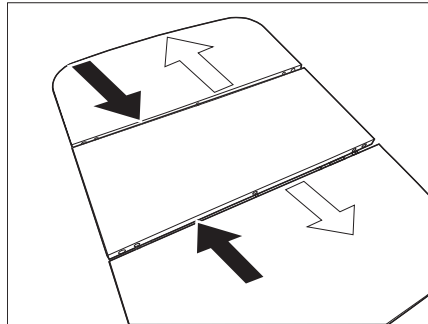

Fig. 102 Lowering the table
- Push the outer parts of the table onto the middle part (Fig. 102 - black arrows).
- Pull apart the outer parts of the table (Fig. 102 - white arrows).